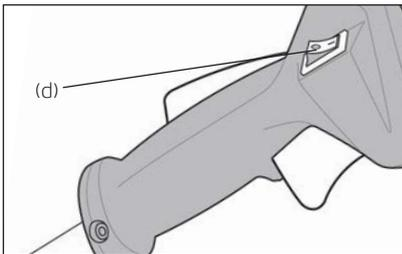

Fig 3 - Set the ignition switch (d) to the START (I) position.
- Set the ignition switch to the START (I) position (fig 3 page 29).